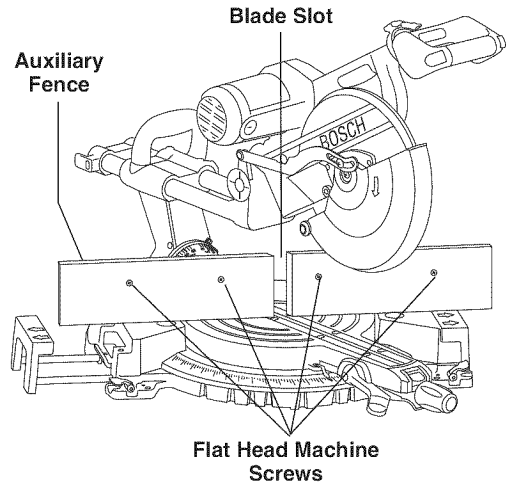

Figure 22. Auxiliary Fence
1. Place a piece of wood against the miter saw fence (Figure 22). (Wood can have a maximum height of 4-1/2"). Check that auxiliary fence assembly does not interfere with head assembly.